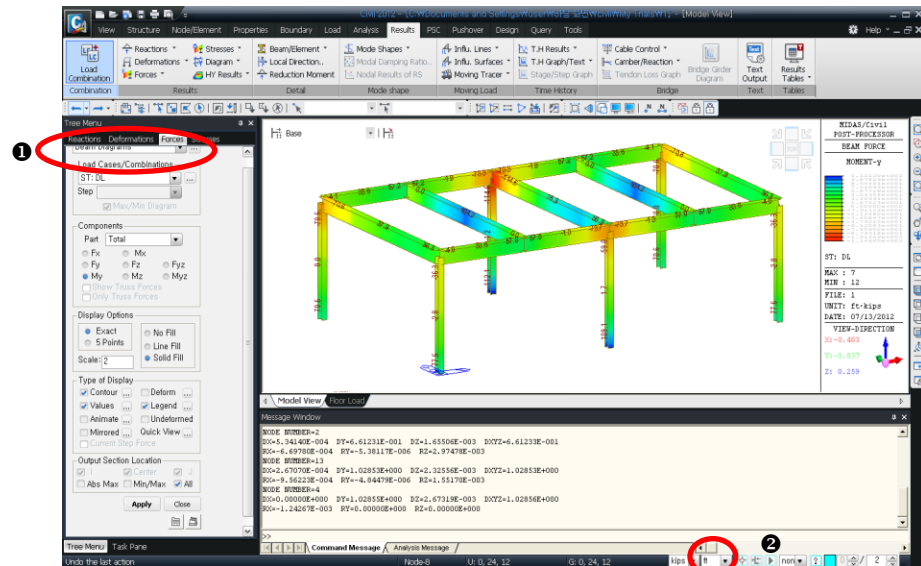

Figure 1.31 Member Forces Contour Lines
1. Click the unit selection button  of Fig.1.31–② and select “ft”.
4. Select **Beam Forces/Moments** from the functions selection field (Fig.1.31–①)..